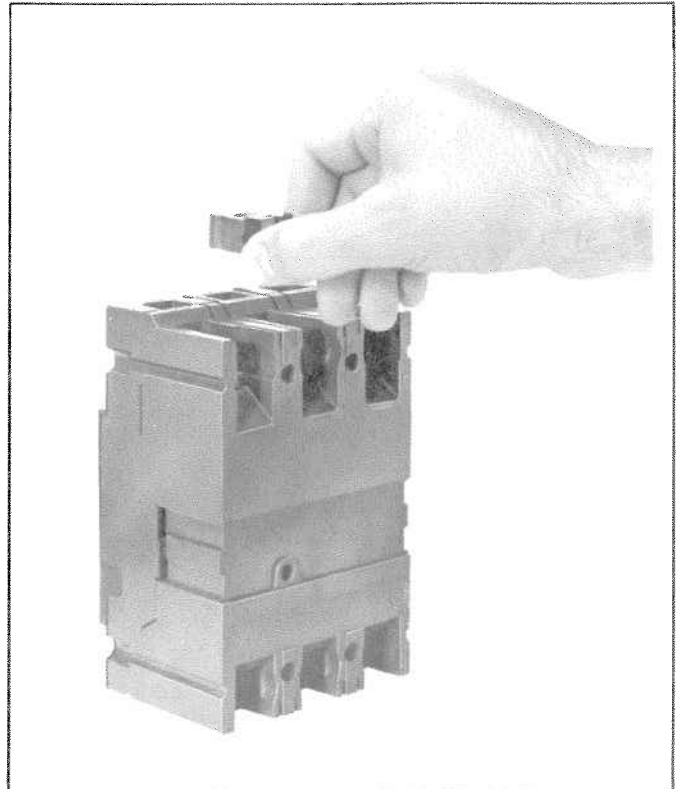

Figure 1. Installing Terminal Lug.
2. Holding lug as shown in Figure 1, push onto terminal strap until it snaps in place.